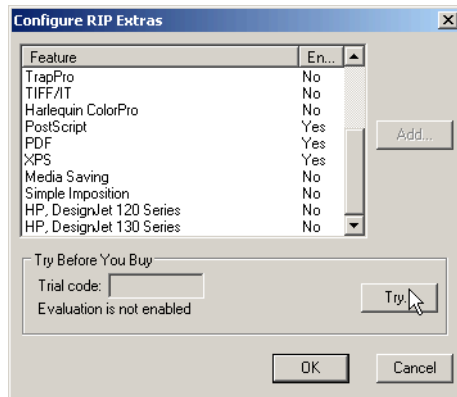

Figure 8.4 The Configure RIP Extras dialog
6. Start the Rasterize-it RIP. Choose **RasterIT > Configure RIP** (or **CTRL+R**) to open the Configure RIP dialog. Click **Extras** to open the Configure RIP Extras dialog (Figure 8.4).